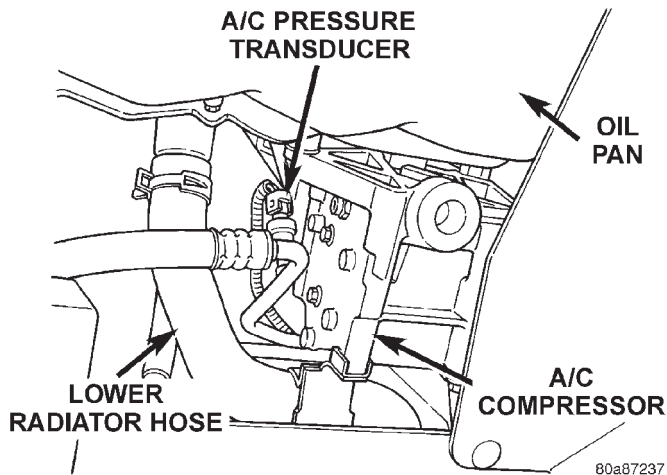
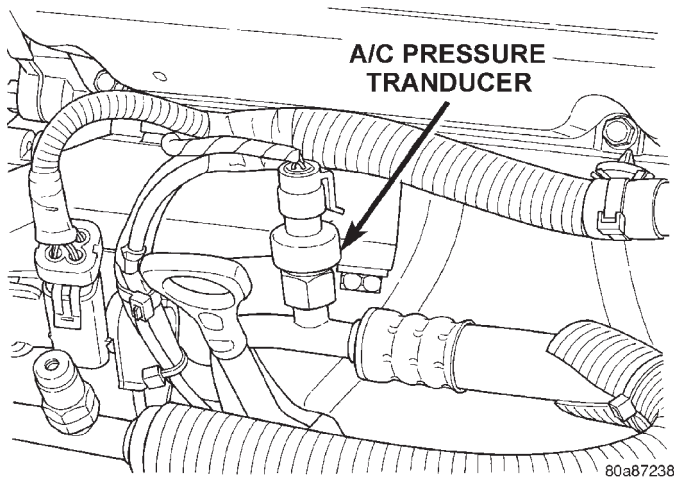

Fig. 10 Pressure Transducer (2.4L engine, viewed from beneath vehicle)
Fig. 11 Pressure Transducer (2.5L engine)
- (3) Remove the transducer with a counterclockwise rotation using a 14 mm open-end wrench (Fig. 10) and (Fig. 11).